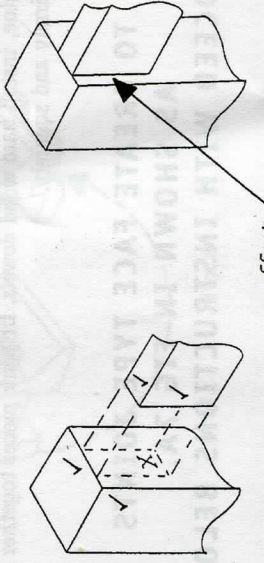

Fig. 5
**TO CREATE OFFSET JOINTS AS SHOWN ON FIG. 5 AND FIG. 5A PROCEED WITH INSTRUCTIONS BELOW**
2. Check (✓) four reference surfaces as shown on Fig. 5